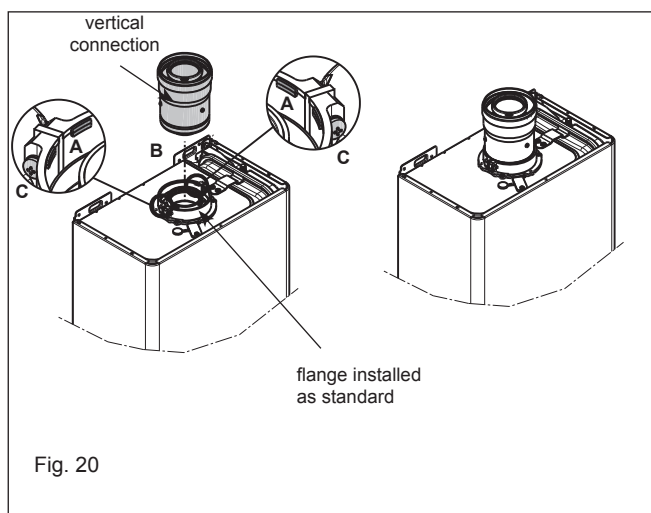

Fig. 20
**NOTE (Fig. 20):** The appliance incorporates a 'click-fit' flue connection. Ensure that both screws 'C' on the 'click-fit' have been slackened off. Ensure that the connector is correctly aligned with the 'click-fit' and insert it into the 'click-fit' until it clicks into position (this is when the tabs at points 'A' are located in the groove of the vertical flue connector). Both screws (C) should now be tightened.